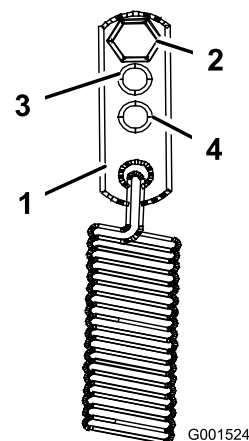

Figure 40
3. For a heavier drive setting, relocate the spring anchor links to either the medium or heavy duty positions (Figure 40). The spring anchor links are attached to the upper rear corner of the hydro drive shields on the left and right sides of the machine.